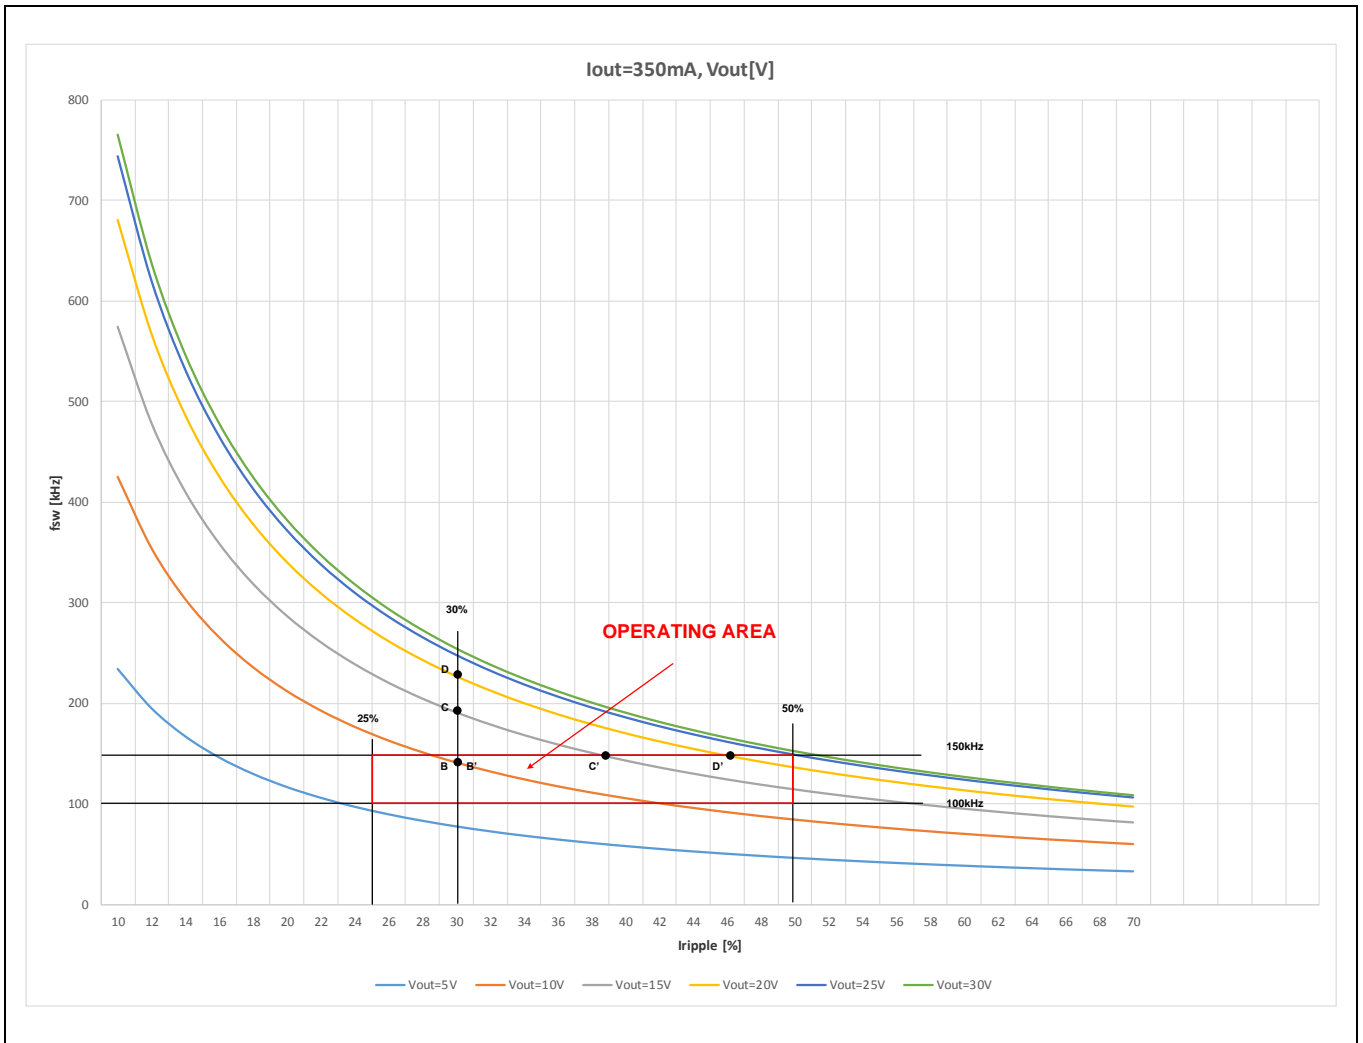

Figure 16. FRC Algorithm Example – Operating Point successfully put into Operating Area
- 1) If the achieved operating frequency is within allowed borders (defined by f_{sw_min} and f_{sw_max}), and the starting value of the ripple is within allowed absolute ripple borders (defined by I_{ripple_min} and I_{ripple_max}), no correction will be performed (e.g. $V_{out} = 10 \text{ V}$ – orange curve, operating point B is in the operating area, $B=B'$, see Figure 16).
- 2) If the achieved operating frequency is above the maximum allowed switching frequency f_{sw_max} (e.g. $V_{out} = 15 \text{ V}$ – grey curve, point C; $V_{out} = 20 \text{ V}$ – yellow curve, point D), the firmware will start to slowly increase the ripple in order to lower the operating frequency (the slope of this increasing ripple depends on the buck inductance L_{EXT} , see equation (12) on page 17). It will continue increasing the ripple until the frequency falls below the high threshold f_{sw_max} (corrected points C' and D', see Figure 16).